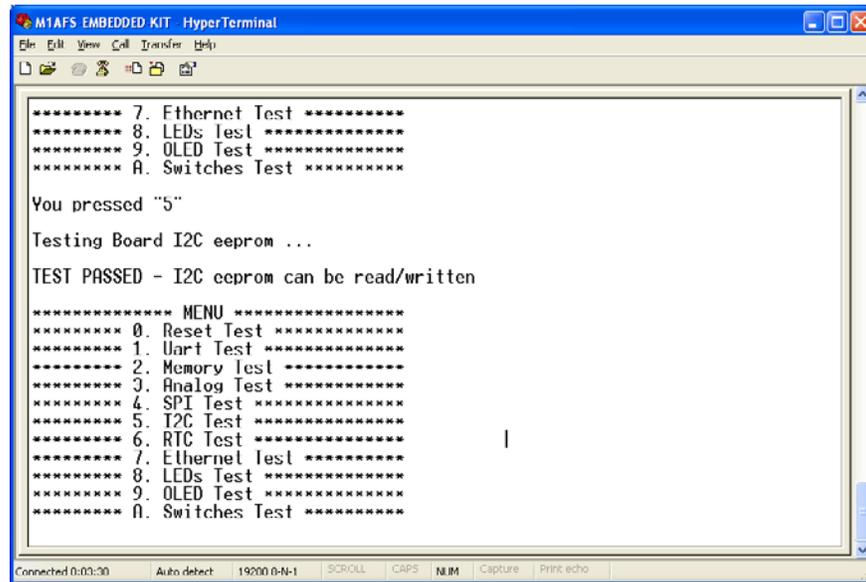

Figure 2-7 · I2C Test Results
8. Enter '5' into the terminal to begin the I2C test. If successful, the test results appear on the screen (Figure 2-7).